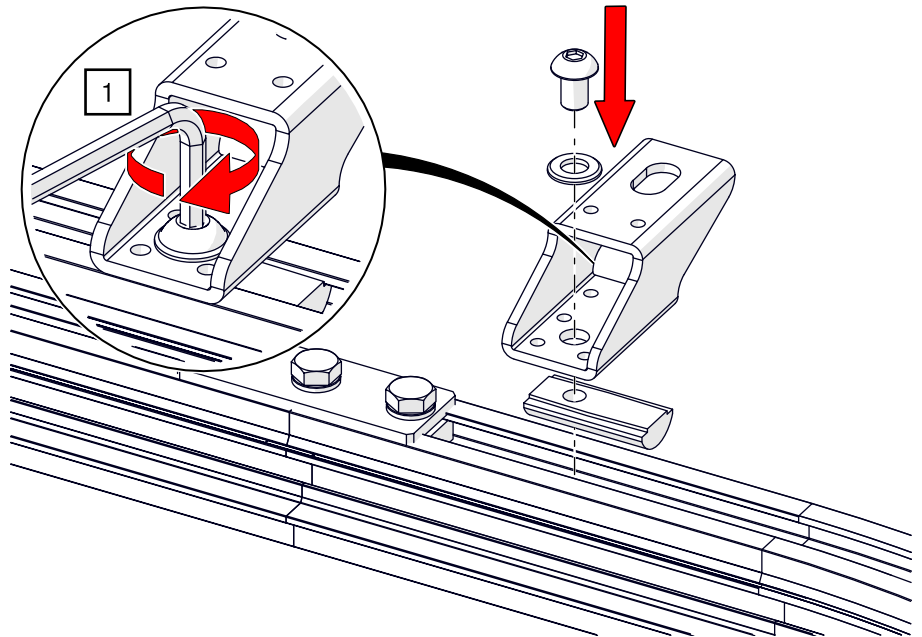

Fig. 51: Ceiling mounting – Mount suspension on track profile
1. Insert the T-slot nut loosely into the track profile and mount the suspension on the track using an Allen key AF 6 (see Fig. 51).